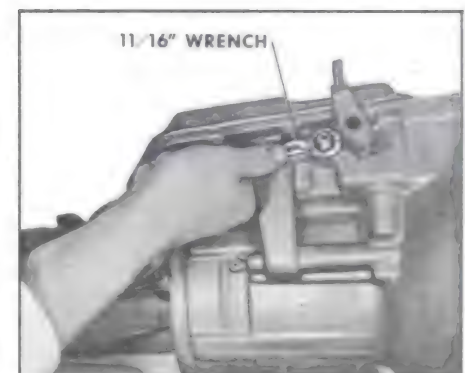

Figure 5-122
1. Release tension on low band adjusting screw retaining nut. Release tension on low band by turning adjusting screw in a counterclockwise direction. Use a 7/32" Allen Wrench. See Figure 5-122.